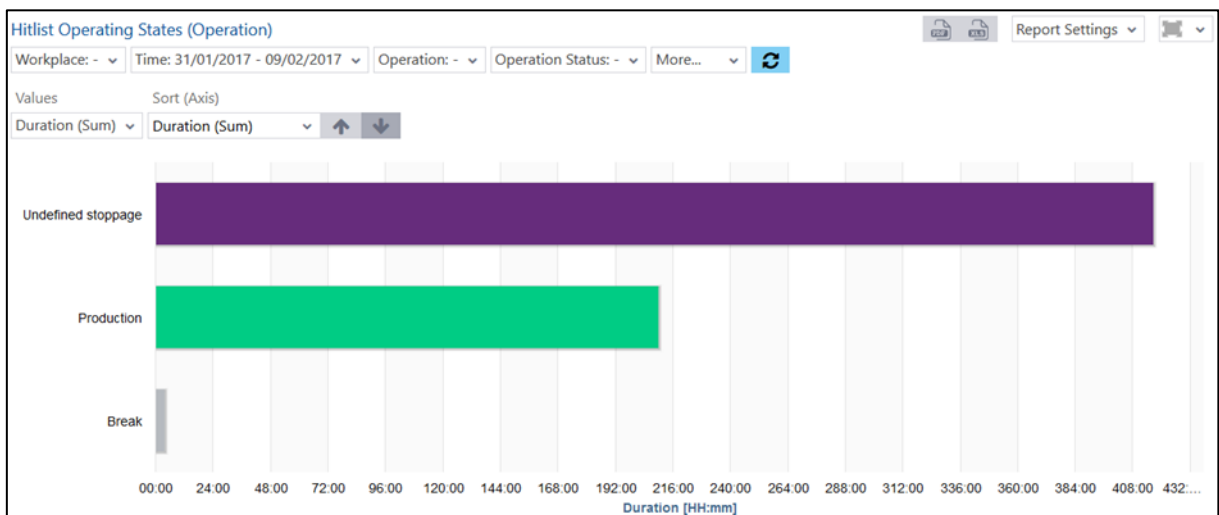

Fig. 89: Hit list of operating states (operation) as bar chart
- Hit list for operating states (operation) as a bar chart (fig. 89):